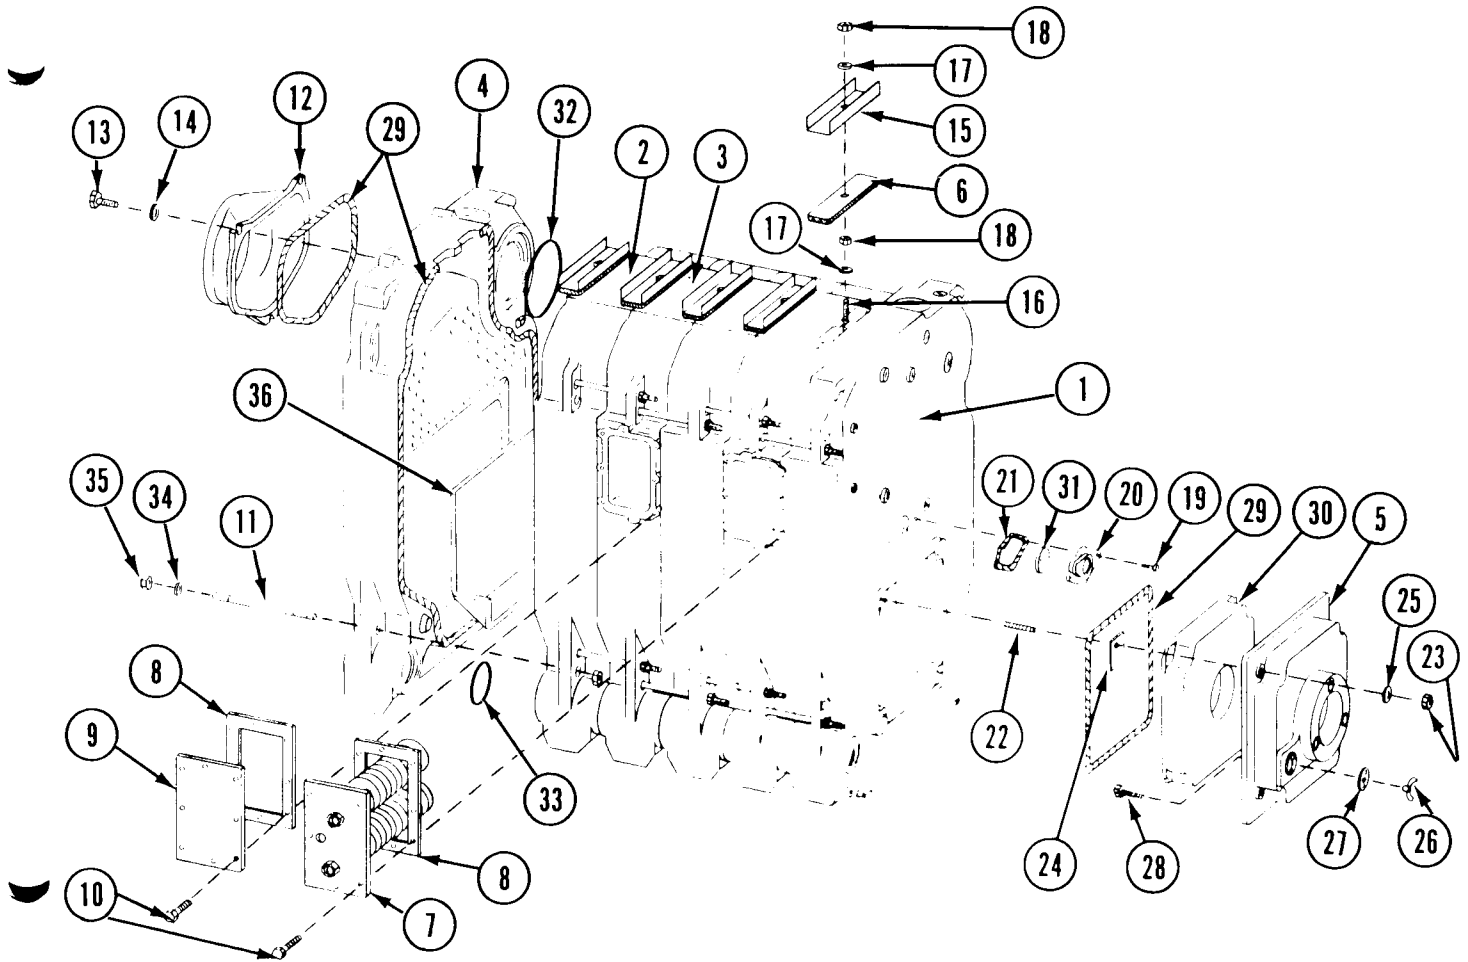

FIGURE 6
- a. Lay back section on floor with ports facing up. Apply water-glass, as an adhesive, to the target wall area (i.e., back end of firebox) of the section. Press flexible refractory blanket into position (see Figure 6).
9. Four $\frac{1}{2}$ " x $4\frac{1}{4}$ " studs are provided to secure the burner mounting plate to the front section (see FIGURE 6).
10. Make a small continuous bead of sealing rope adhesive in the groove around the burner mounting plate opening in the front section. Position the $\frac{1}{2}$ " diameter by 58" long rope in the groove making sure the ends overlap at least 1" and install the burner mounting plate using the $\frac{1}{2}$ " washers and nuts provided. Make sure burner plate is installed with the round secondary air opening to the left (see FIGURE 6).
11. Make a small continuous bead of sealing rope adhesive in the bottom of the sealing groove located around the flange of the front observation port assembly. Position the $\frac{3}{8}$ " diameter by 12" long sealing rope in the sealing groove making sure the ends overlap at least 1". Install the front observation port assembly using the number 10-32 x $\frac{3}{4}$ " truss head screws provided (see FIGURE 6).
12. If the boiler was ordered with "TI" intermediate section(s), install the indirect water heater(s) and gasket(s) or heater opening cover plate(s) and gasket(s) using the $\frac{3}{8}$ " x $\frac{3}{4}$ " hex head screws and washers provided (see FIGURE 6).
13. Place a 1/4" x 1 1/2" carriage bolt in the cleanout opening as shown in FIGURE 6. Place a washer and nut over the bolt to hold it in place. Place the 10 1/2" x 1 7/8" cerafelt blanket insulation pieces against the cleanout plates. Mount the cleanout plate over the opening and bolt the cleanout plate in position (see FIGURE 6).
16. Position the draft hood collar to fit over the flueway outlet on the back section. Secure the draft hood collar to the back section using the 3/8" x 1" hex head cap screws and washers provided (see FIGURE 6).